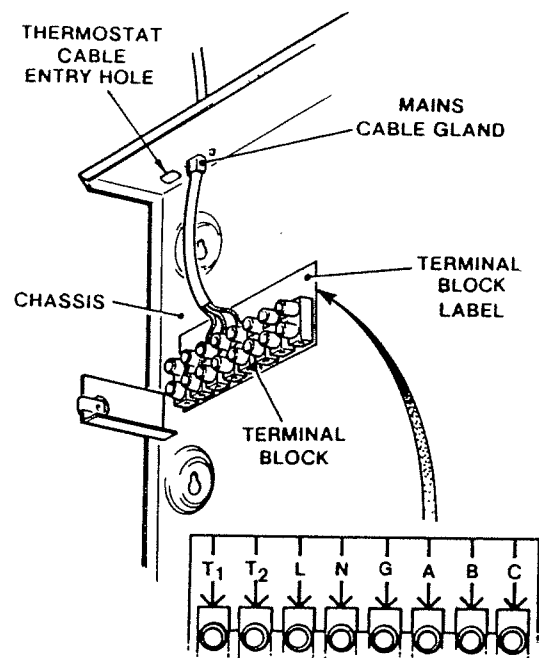
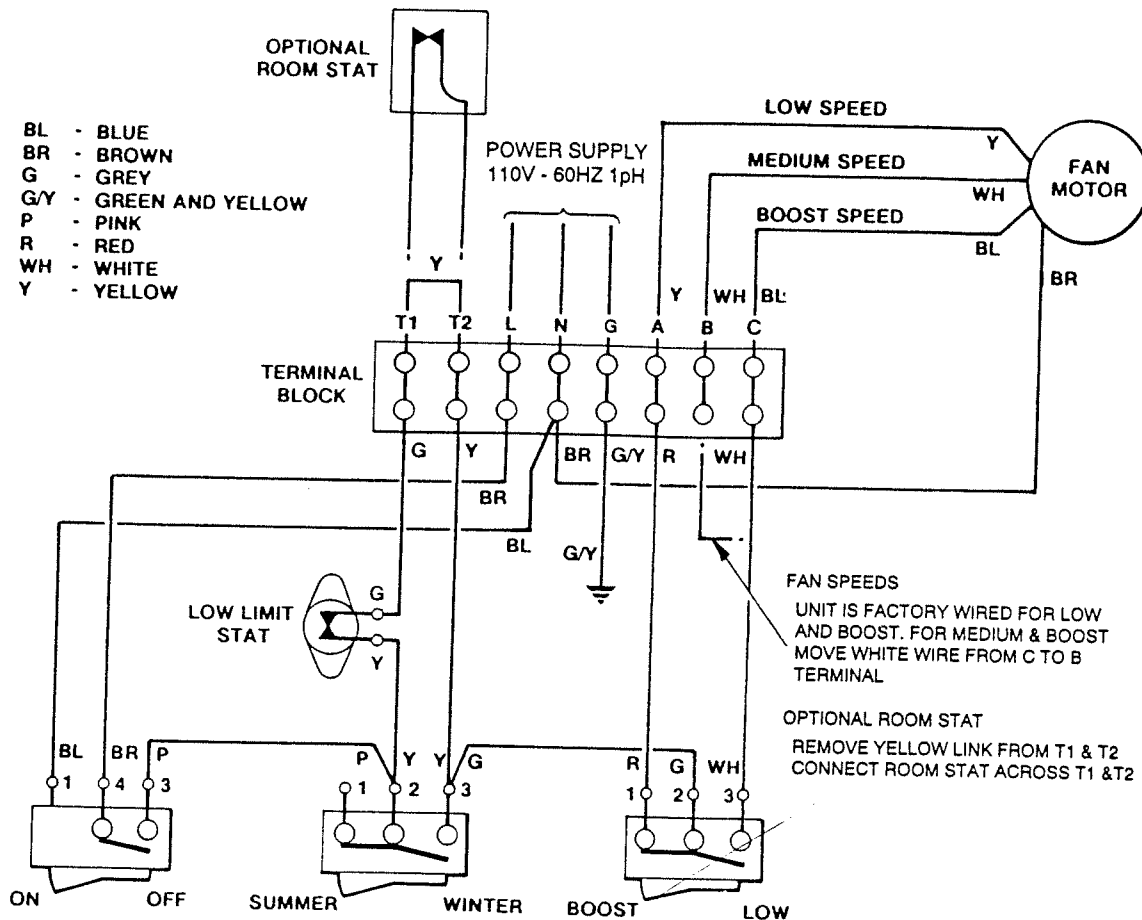

Figure 8
Figure 9
- If it is required to control the unit by means of a remote room thermostat, remove link lead between T1 and T2 and fit leads from remote thermostat to T1 and T2. See full schematic wiring diagram, fig. 9. Thermostat cable entry is by means of the extra hole provided alongside power cable entry. (See fig. 8)
- The unit is fitted with a three speed motor and is factory wired to use low and boost speeds. If low and medium are preferred, move the white wire from terminal C to terminal B see fig 9).